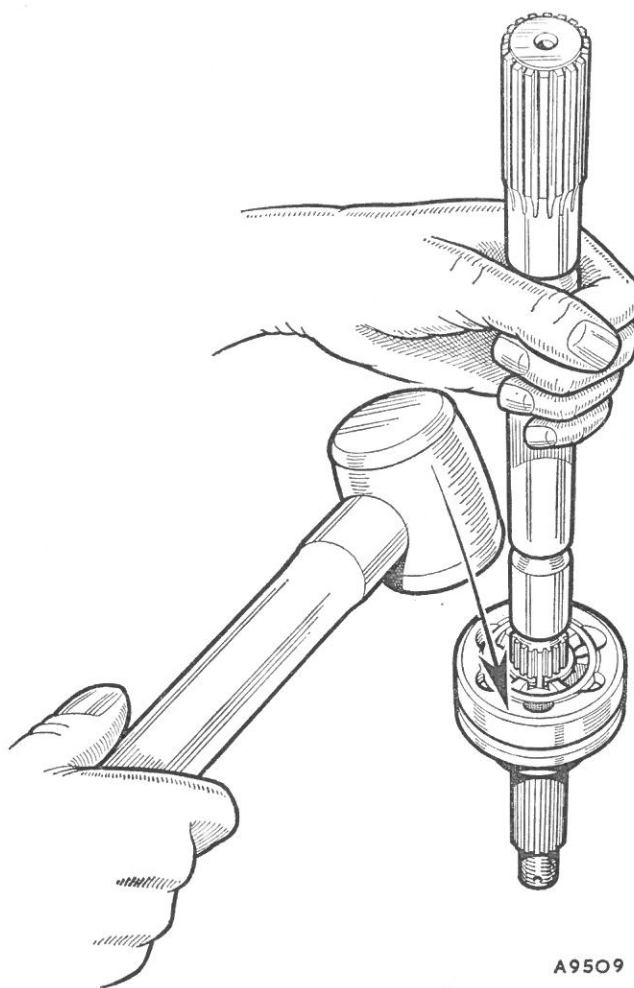

Fig. G.1
- (1) Clean the shaft of road dirt and grease and mount the shaft centrally in a vice fitted with soft jaws.
- (2) Prise off the boot and housing seal clips or cut the soft iron wire, turn back the housing seal and slide off the joint flange. Remove the housing seal and the rubber boot: if they are worn or damaged replacements must be fitted on reassembly.
- (3) The bell joint can only be dismantled after removal of the shaft; a round-section spring ring located in a deep groove in the extreme end of the shaft is expanded into the chamfered end of the inner race bore, and for shaft removal this must be contracted into the groove.
- (4) Hold the shaft and joint vertically, the bell joint downwards, and give the edge of the outer race a sharp tap with a soft faced mallet (see Fig. G.1). This should contract the spring ring so that the joint can be drawn off the shaft. It should not be necessary to use heavy blows for this operation.